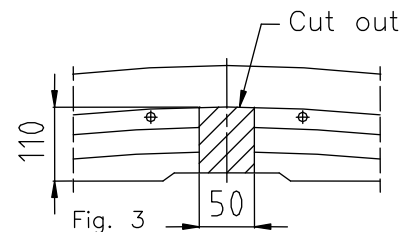

Fig. 3
3. To the left and right chassis member slip sleeve  $L=85$ mm (pos. 10), see fig.
4. To drilled holes put sleeves  $L=51,5$ mm (pos. 9).
5. To the inside of chassis members and rear part of the car put brackets (pos. 4 and 5) and fix using bolts  $M10 \times 120$ mm (pos. 13) through sleeves and bolts  $M10 \times 35$ mm (pos. 15) through nuts on the jib (pos. 8).
6. Put the main bar of the towing hitch (pos. 1) on protruding elements (bolts) of removed metal reinforcement and fix using original nuts  $M8$  (from reinforcement) and using  $M10 \times 90$ mm (pos. 14) - see fig.
7. Elements of the towing hitch (pos. 6 and 7) fix loosely to the original tow handle, and next through holes (pos. A) of ball brackets fix using bolts  $M10 \times 30$ mm (pos. 16).
8. Fix tow-ball (pos. 2) with socket plate (pos. 3) using bolts  $M12 \times 75$ mm (pos. 11) and  $M12 \times 70$ mm (pos. 12).
9. Assemble a cover plate and a bumper (cut out its fragment – see fig. 3 and 4).